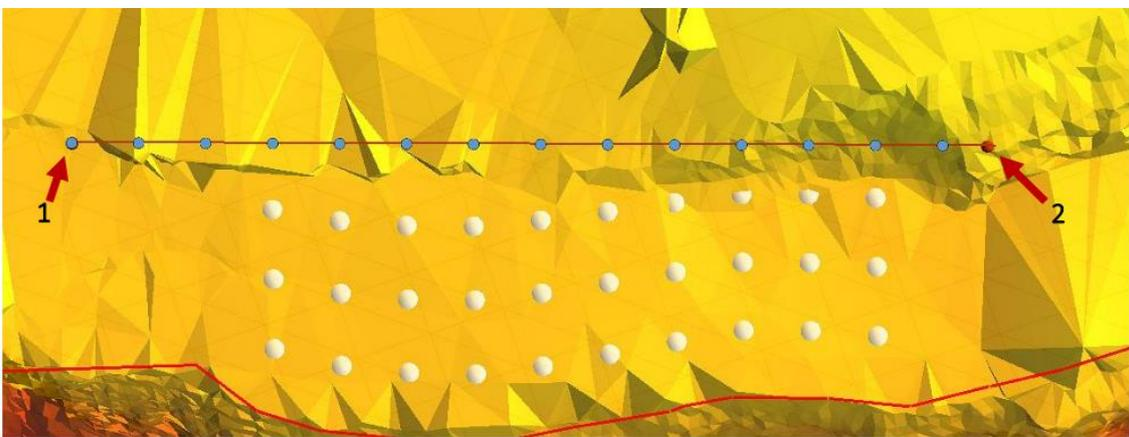

Figure 222 - Creating new row.
After defining the parameters, the user must click one time on the field (1) and then drag the mouse until the place where he wants to build the row (2) - Figure 222.